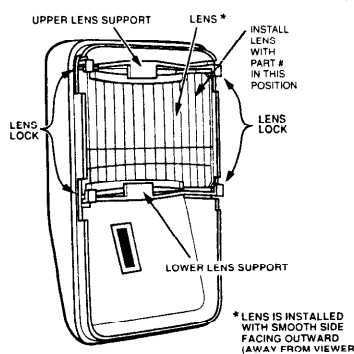

Figure 4: CHANGING LENSES
- Squeeze upper lens lock located in front cover to release upper Fresnel lens support. Squeeze lower lens lock to release lower Fresnel lens support (see Figure 4).
- Carefully remove the existing lens and replace with an optional coverage replacement lens. *The lens must be installed with the smooth side facing outward.* Also, the lens should be oriented with its part number on the upper right-hand side (see Figure 4). Be sure to center the lens.